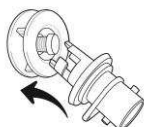

Figure 2
- Insert the correct pump adaptor, which will lock onto the valve (figure 2 & 3)